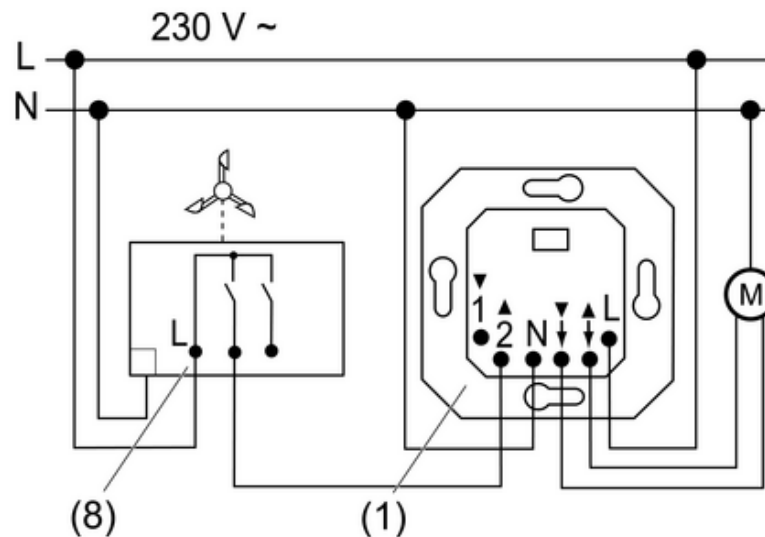

Figure 5: Connection example of wind sensor
- Connect the wind sensor (8) according to the connection example (figure 5). The wind alarm is implemented via extension input 2.